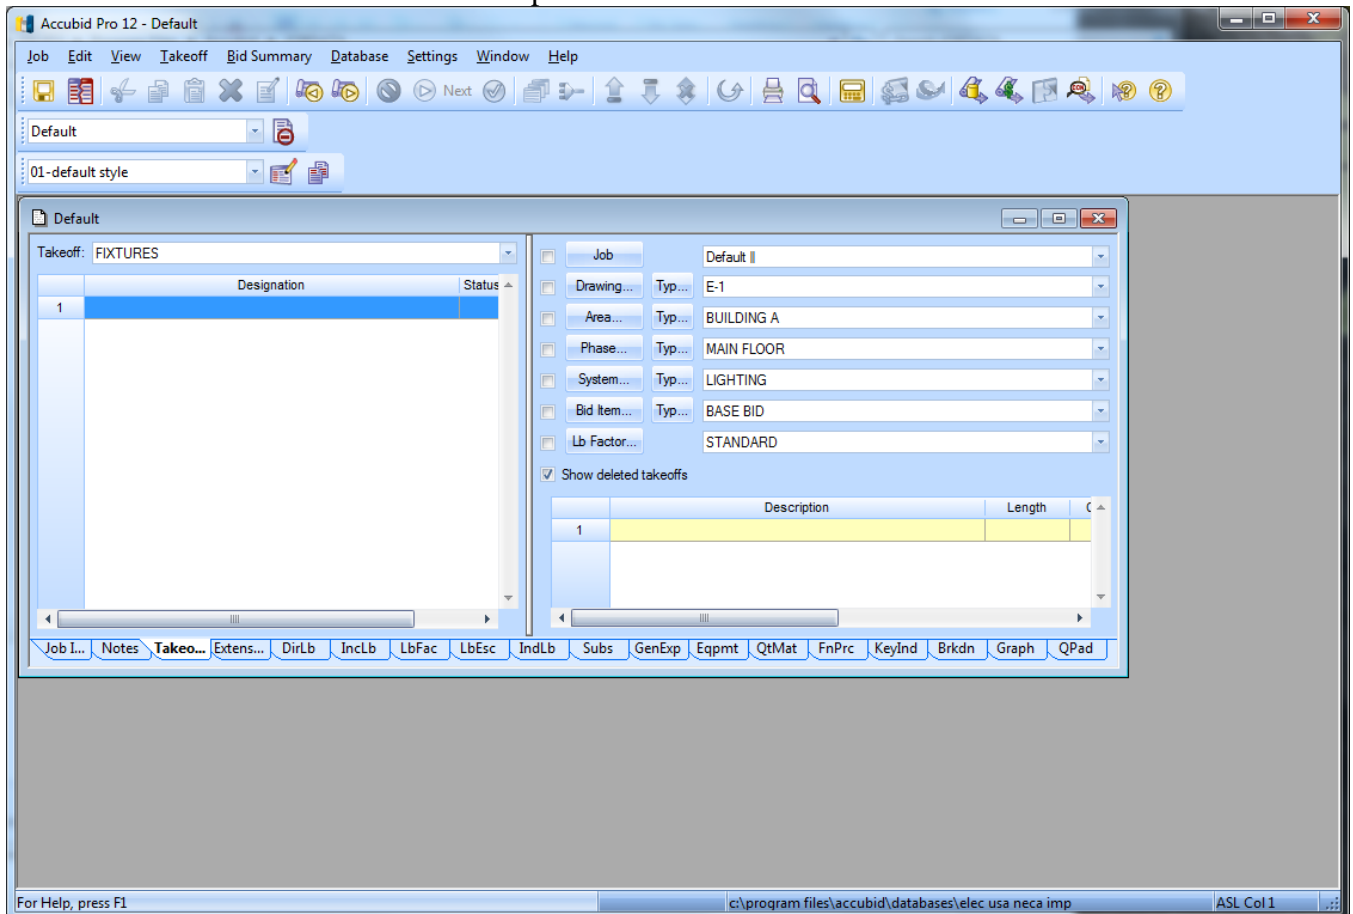

Figure 24
43. If the Default window is not maximized as shown in Figure 24, click the Maximize button in the Default window to maximize the window.